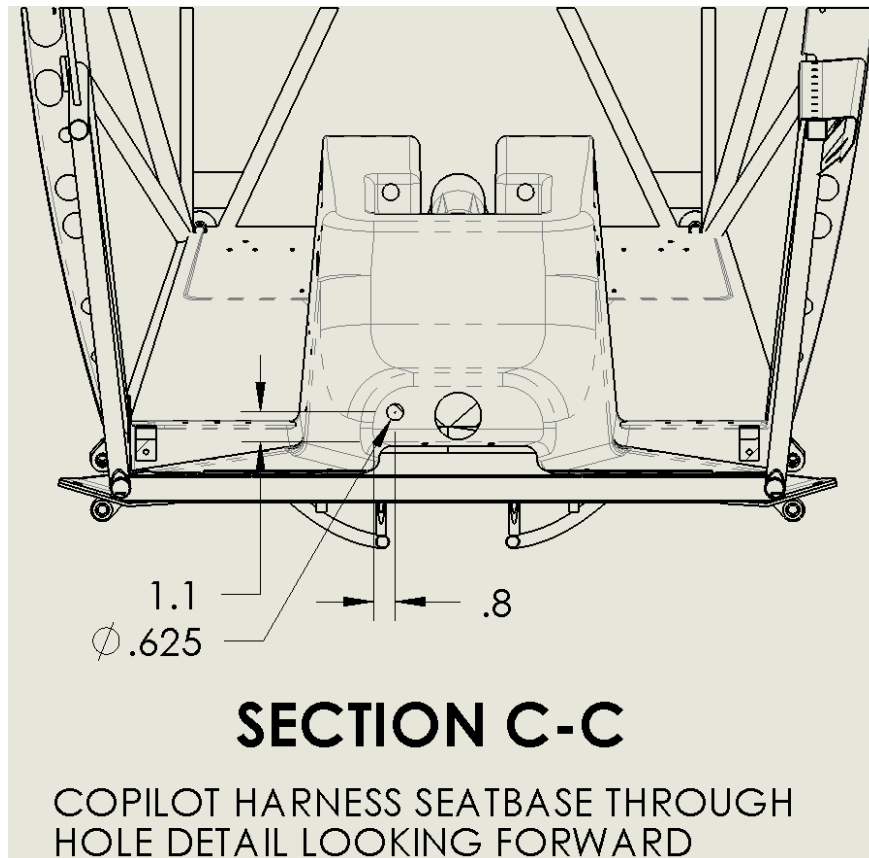

Figure 2
11. Drill $\varnothing 0.625$ inch hole in seat base for aft control stick harness and install grommet, see Figure 2.